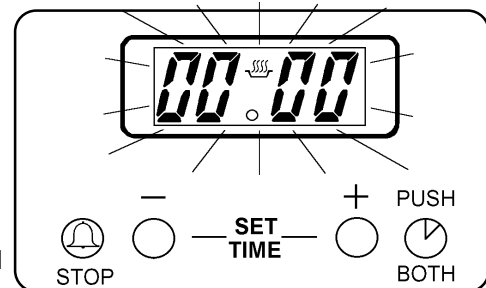

Fig.2
Press buttons (1) and (2) together. The display will read 12:00. See Fig. 2.